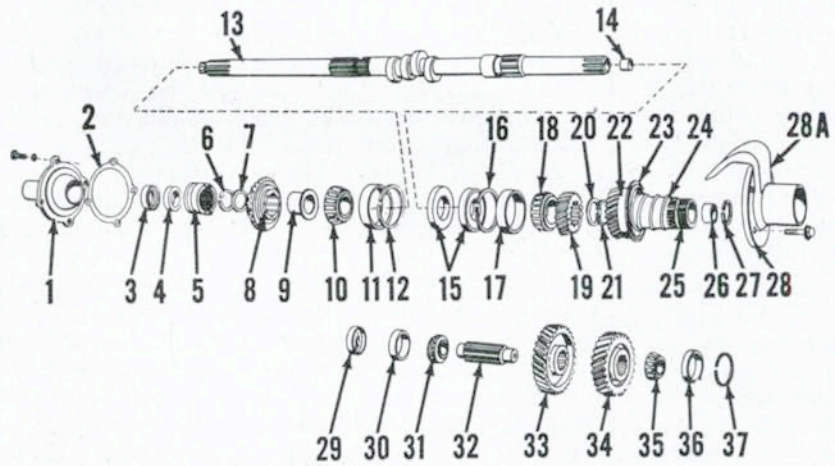

Fig. 104—Exploded view of D-14 and D-15 clutch shaft and associated parts. Lip seals (3 & 4) face toward rear.
To remove the "Power Director" outer clutch shaft, it is necessary to split the torque tube from the transmission housing as outlined in paragraph 172; then proceed as follows: Remove snap ring (27—Fig. 103), unbolt and remove retainer (28) and oil transfer tube (28A). Outer shaft (25) can be withdrawn as the transfer tube is removed. After snap ring (21—Fig. 104) is removed, thrust washer (20) and drive gear (19) can be removed.
165. To remove the intermediate gears and shaft, it is first necessary to remove the PTO driven gear as outlined in paragraph 224; then proceed as follows: Remove snap ring (27—Fig. 103), then unbolt and remove retainer (28) and oil transfer tube (28A). Remove the plug (29—Fig. 104), then remove snap ring (37). As the shaft (32) is pressed or bumped